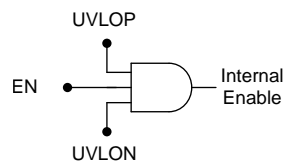

图 64. Simplified Turn-On Control
图 64 and 表 2 describe how the turn-on and turn-off times of both LDOs (respectively) is controlled by setting the enable circuit (EN) and undervoltage lockout circuit (UVLOP and UVLON).